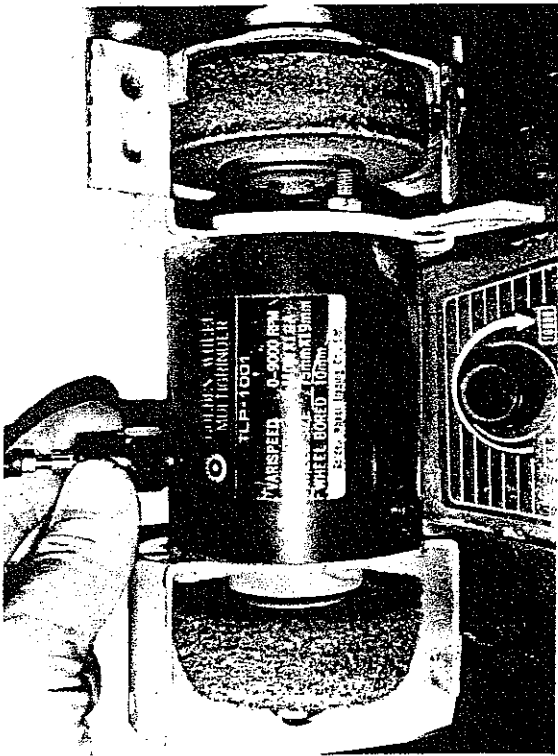

Fig. 2
- 6) If the surface material of measuring article is not the ferrous material, hold the vibration sensor by hand & touch the sensor to the surface of the measuring article, refer to the Fig. 2, page 6.